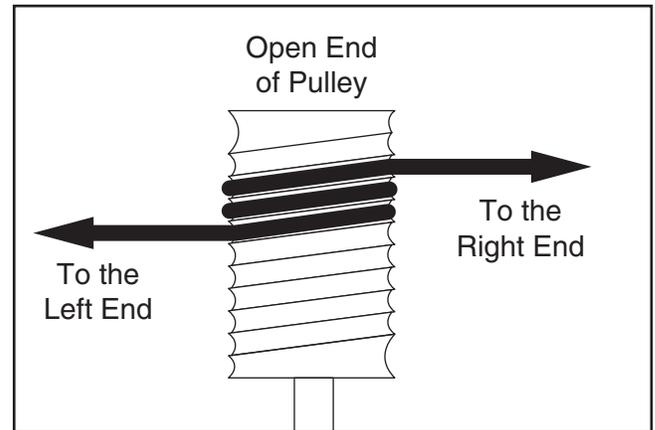

Figure 18. Cable orientation on pulley.
12. Wrap cable around pulley twice, as shown in **Figures 18–19**.
Note: Pay close attention to position and orientation of cable on pulley, as illustrated in **Figure 18**.